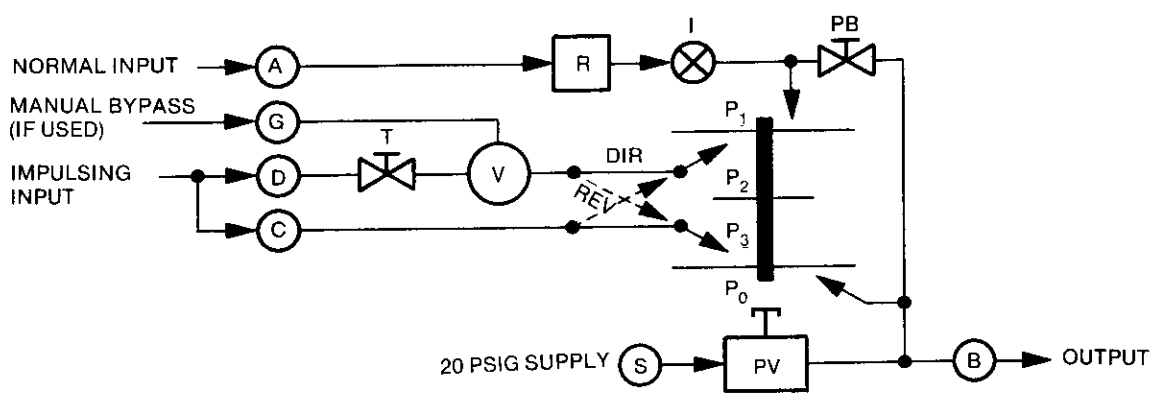

FIGURE 2 Schematic
The Impulse Relay function is described by the pressure equations in Figure 2.
Refer to Figure 2 and to the following for a basic description of how the Impulse Relay operates.
With the impulsing input (C) and (D) constant, the pressures in chambers P_2 and P_3 are equal. The timing needle valve (T) and the volume chamber (V) introduce a first order lag between P_2 and P_3 when the impulsing input changes. Figure 2 shows (C) and (D) connected to P_3 and P_2 respectively to give a direct-acting pulse (i.e. with an increase of the impulsing input, the output of the Impulse Relay will increase). A reverse-acting pulse is achieved by changing the position of the reversing plate. This connects (C) to P_2 and (D) to P_3 .